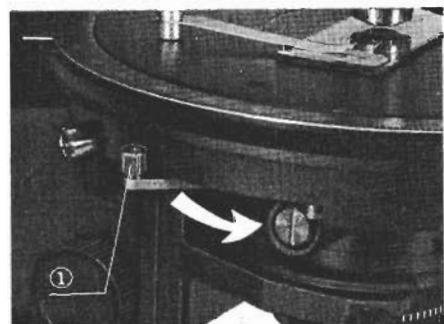

Fig. 18
- 3) Rotate the stage until the extinction of the image is attained, and move the 45° click stop lever ① toward the operator. (Fig. 18)